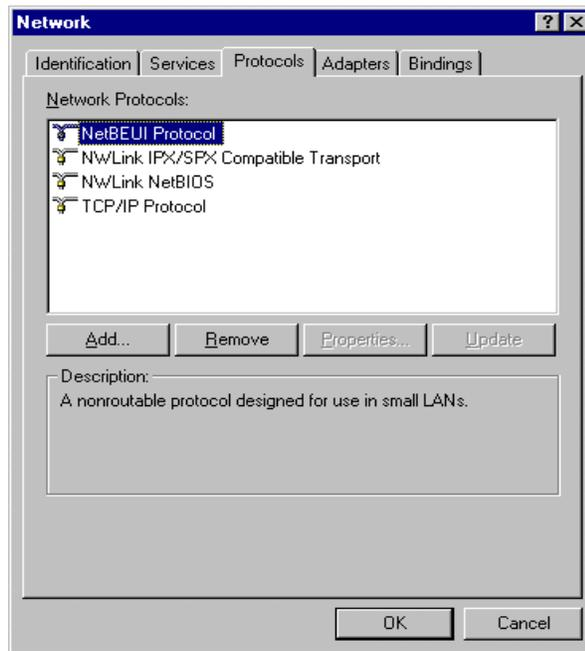

Figure 9-2. Protocol tab on Network Dialog
2. The Network dialog box will display. Click on the **Protocols** tab (Figure 9-2). Click **A**dd to begin the installation of TCP/IP Passthrough.